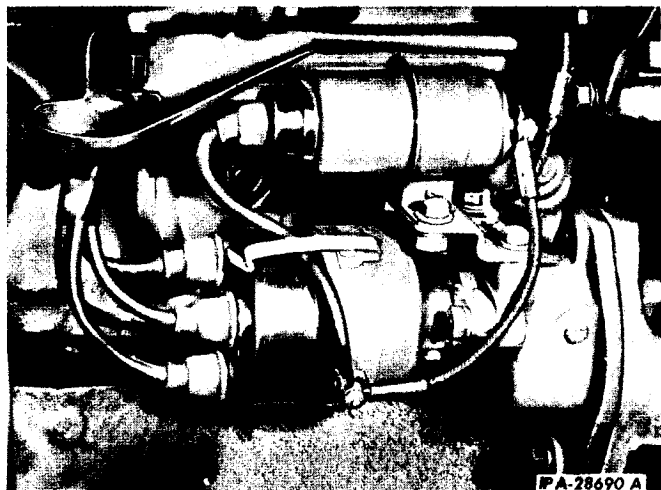

Fig. 19 - Secondary Cable Held Under Distributor Cap Spring for Timing Check.
3. Place the secondary cable under the distributor cap spring and place the terminal within 1/16 to 1/8 inch of the distributor primary terminal (Fig. 19). A final check should be made by cranking the engine until the "DC" mark on the fan drive pulley again approaches the pointer on the crankcase front cover. Continue cranking until a spark just occurs at the gap between the secondary cable and the primary terminal.